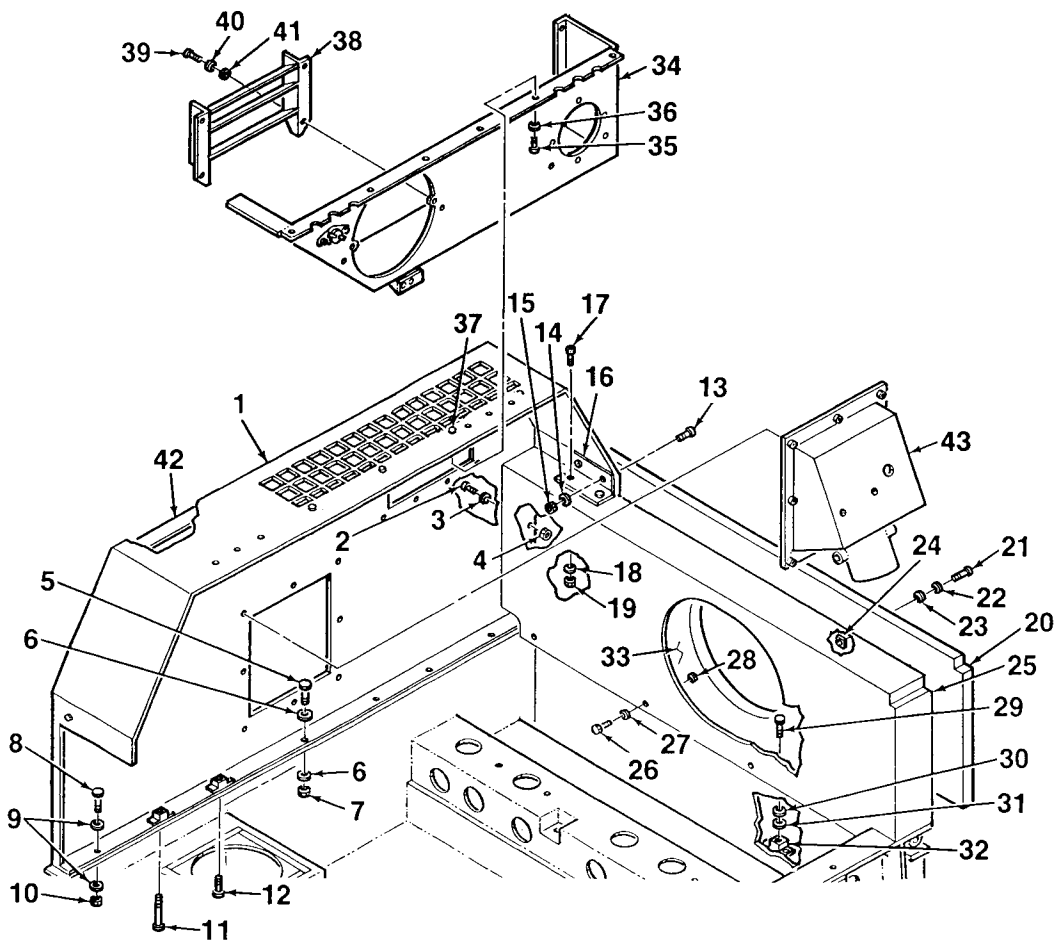

Figure 4-38. Enclosure Panels
1. Install acoustic insulation (42, Figure 4-38).
2. Install louver (38) onto air outlet panel (34) using four screws (39), lockwashers (40), and washers (41).
3. Install air outlet panel (34) onto left side panel (1) using eleven screws (35), washers (36), and locknuts (37).
4. Install acoustic insulation (33). Install air inlet cover (20) onto air inlet panel (25) using nine screws (21), lockwashers (22), washers (23), and captive nuts (24).
5. Install angle bracket (16) onto air inlet panel (25) using two screws (17), washers (18), and locknuts (19).
6. Install air inlet panel (25) onto skid base using four screws (26), washers (27), and locknuts (28), and four screws (29), washers (30), lockwashers (31), and captive nuts (32).
7. Position left side panel (1) onto skid base. Secure using five screws (5), ten washers (6), and five locknuts (7). Install screw (8), two washers (9), and locknut (10). Install screws (11, 12).
8. Attach left side panel (1) to air inlet panel (20) using three screws (2), washers (3), and locknuts (4).
9. Attach left side panel (1) to bracket (16) using two screws (13), washers (14), and locknuts (15).